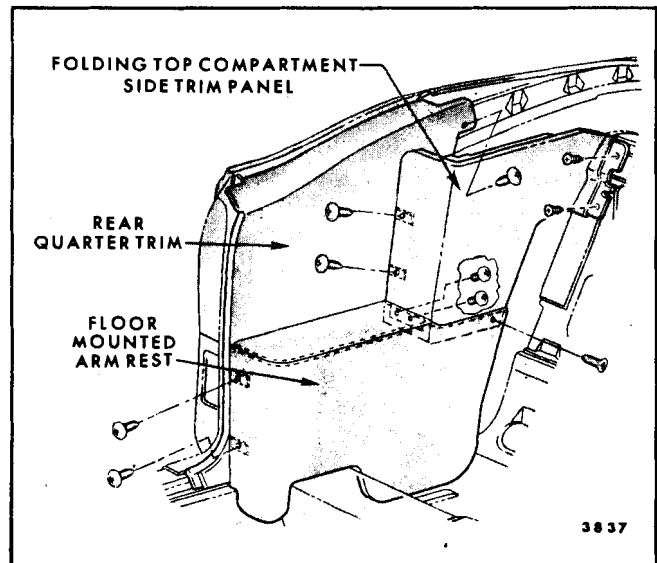

Fig. 13-20-Quarter Trim Assembly Attachment Convertible Styles
Arm rests on convertible styles are a "Floor-Mounted Type" and include an integral folding top compartment side trim panel (Fig. 13-20).
3. Remove attaching screws from folding top compartment side trim panel as shown (Fig. 13-20).